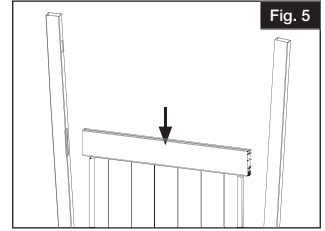

Fig. 5
- b.) For lattice top, open picket top and closed picket top gates, slide middle rail over all boards and insert middle rail into upright route on same side as bottom rail (Fig. 5).